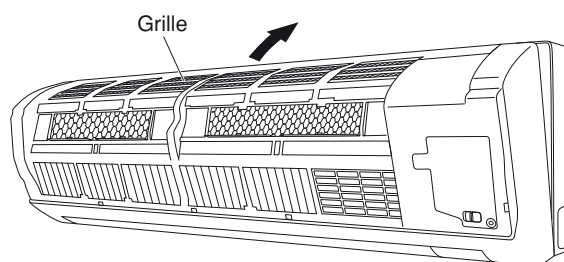
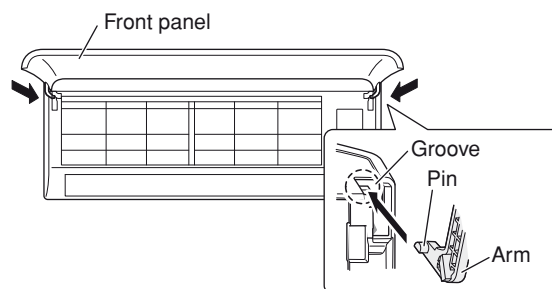

Fig. 18b-2
Fig. 18c-2
- (1) When installing the grille, place the bottom of the grille into the frame first. (Fig. 18b-2) Then insert the tabs on the top of the grille and on the front face into the frame.
- (2) Make sure that the grille and frame are firmly fitted together by engaging the tabs.
- (3) Press the grille firmly with your hand to ensure no gap exists between the frame and grille.
- (4) Tighten the 3 screws and close the screw covers.
- (5) Grasp the sections near the front panel arms on both sides, hold the front panel so that it is nearly horizontal, bring the arm shafts into contact with the top of the grooves on the right and left sides of the air conditioner, and then push firmly until the arm shafts click into place. (Fig. 18c-2)